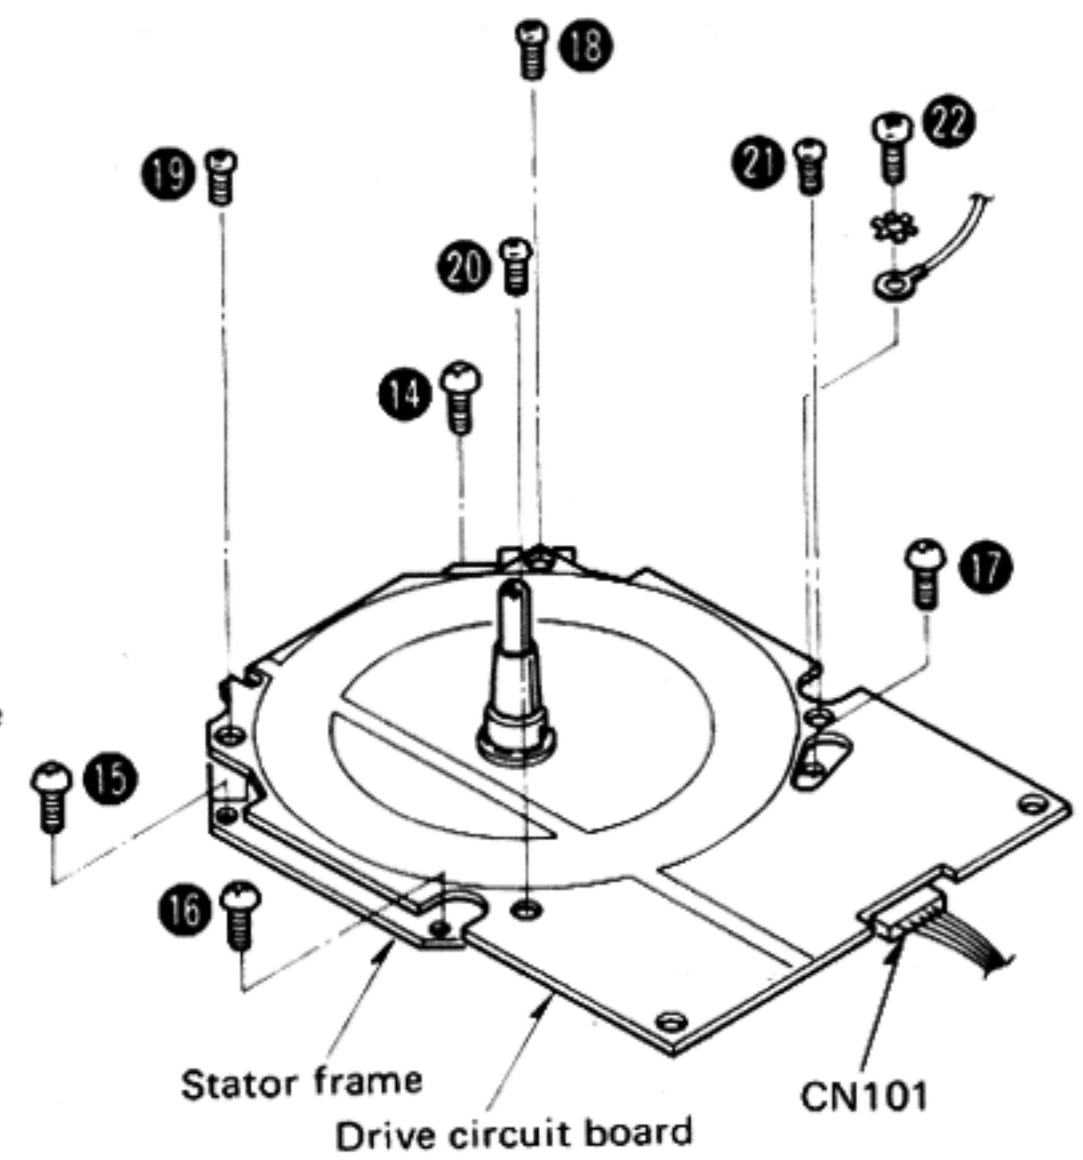

Fig. 6
2. Remove the 4 stator frame setscrews (Fig. 6 : ⑭ ~ ⑰), then the stator frame with drive circuit board can be removed.
4. Remove the 4 drive circuit board setscrews (Fig. 6 : ⑱ ~ ⑳) and the connector CN101.
5. Remove the ground wire setscrew (Fig. 6 : ㉒) to separate the stator frame and drive circuit board.